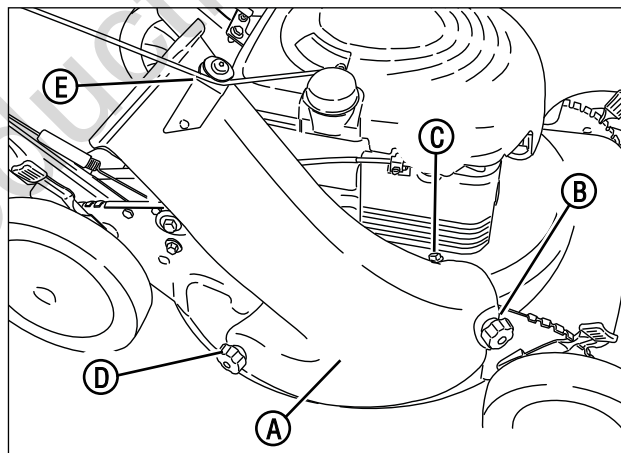

Figure 10: Installing the grass bag adapter
2. Install the adapter (**A, Figure 10**) to the deck in place of the mulching cover, making sure that: